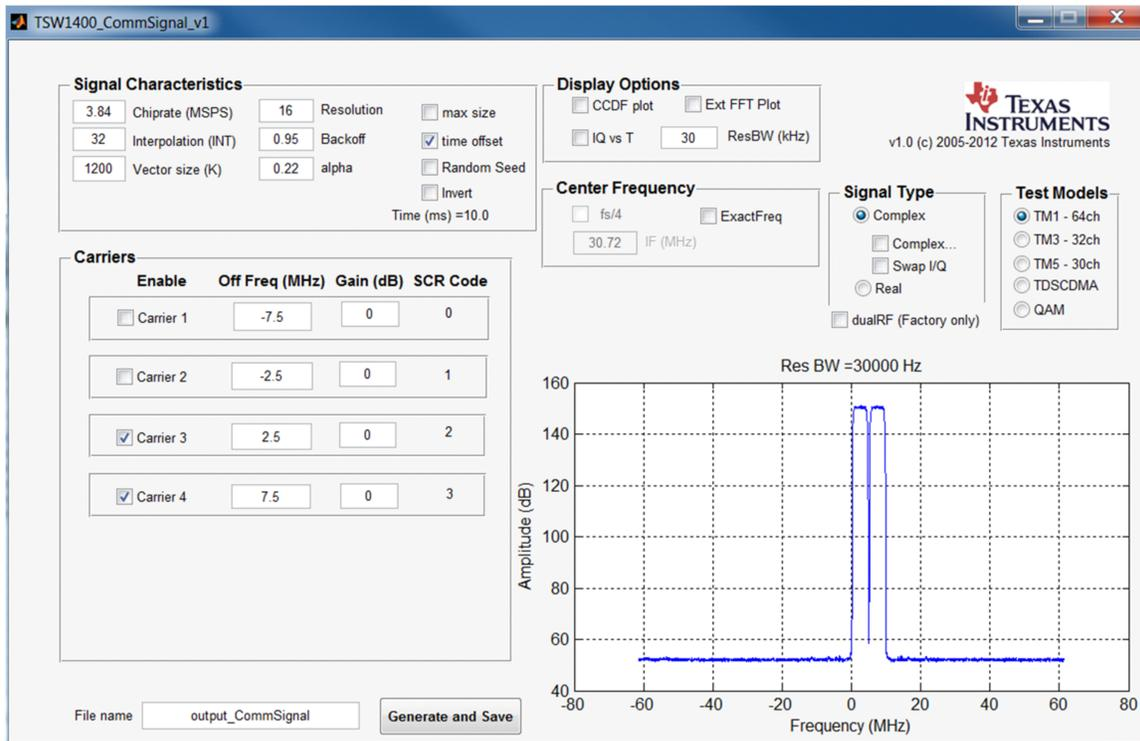

Figure 10. Two Carrier WCDMA TM1 pattern
2. Keep all the default values and select the **Enable** check boxes for **Carrier 3** and **Carrier 4** (Figure 10).